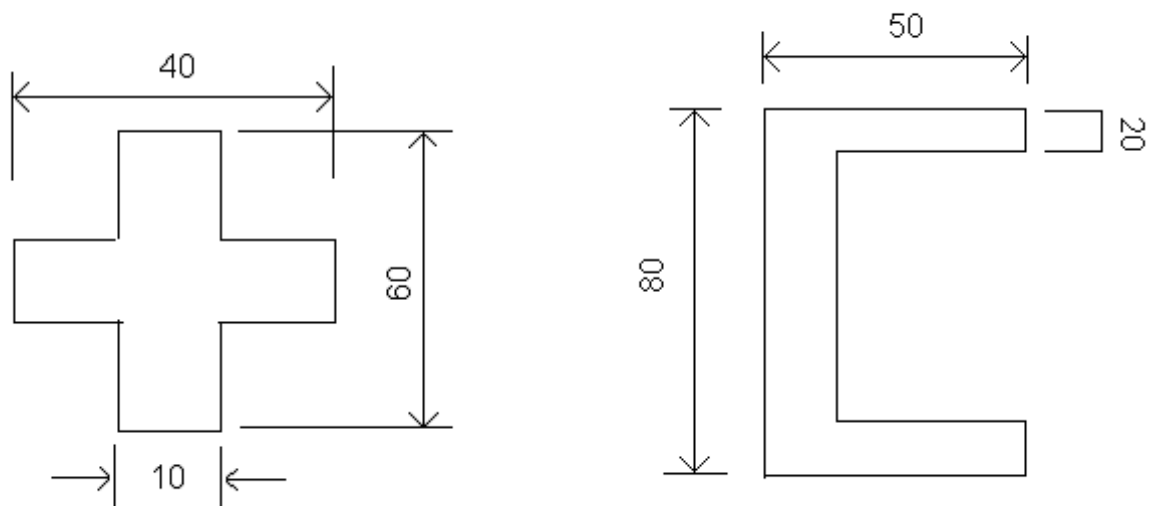

Figure 4b
- (b) Determine the center of pressure for the following components shown in Figure 4b.